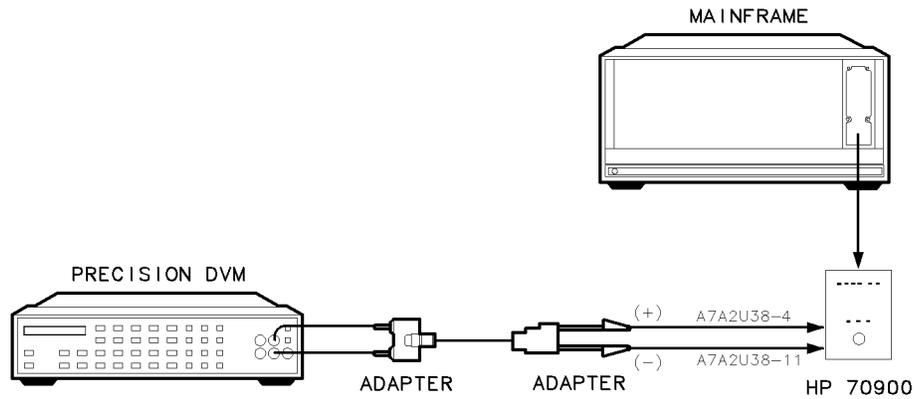

Figure 6-15. Equipment Setup for Adjustment 08. FFS Tune/Comp Coarse
2. A voltmeter measures voltage potentials on A7A2 FFS analog (U36), as illustrated in Figure 6-15. To provide access for the voltmeter probes, attach a 14-pin IC clip on U36. You can make a 14-pin clip by cutting off the two end pins of a standard 16-pin IC clip (HP part number 1400-0734). Trim the clip's plastic body to expose about 3 mm of each pin.